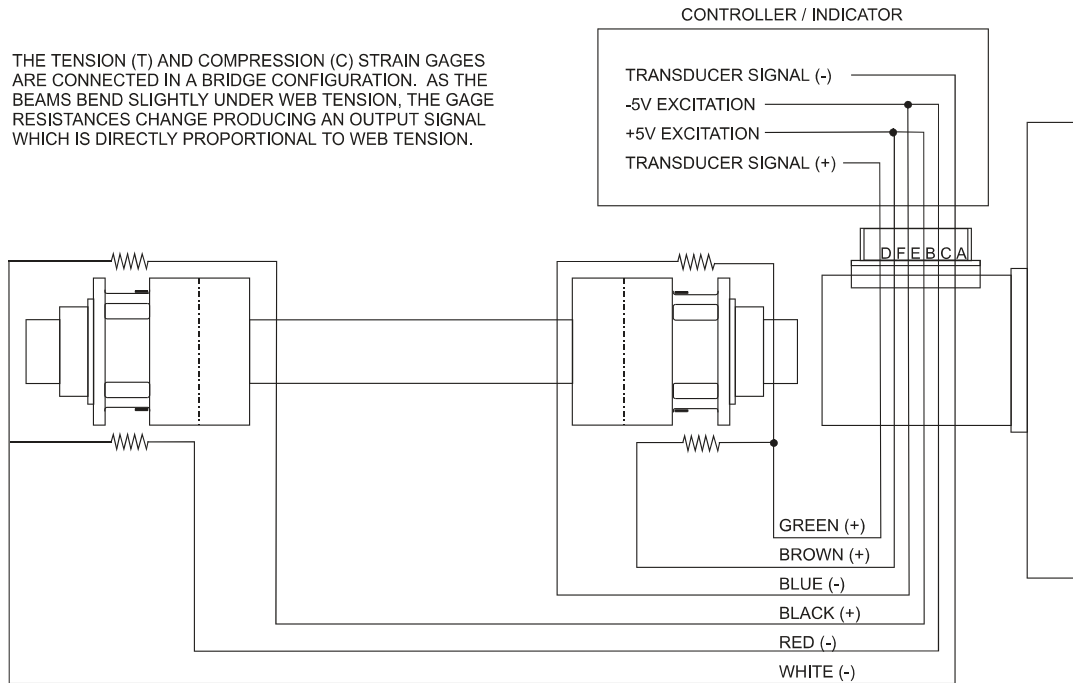

Figure 1 - EXAMPLE OF STRAIN GAGE CONNECTIONS
1.3 ELECTRICAL OPERATION (see figure 1)